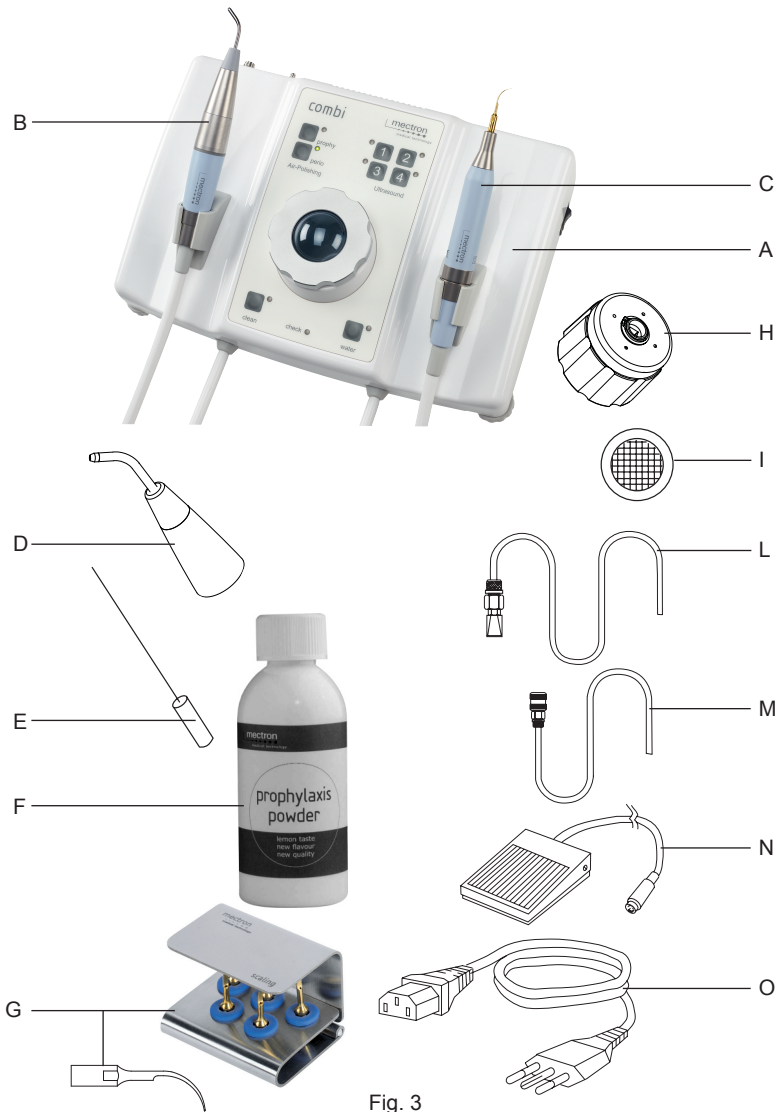
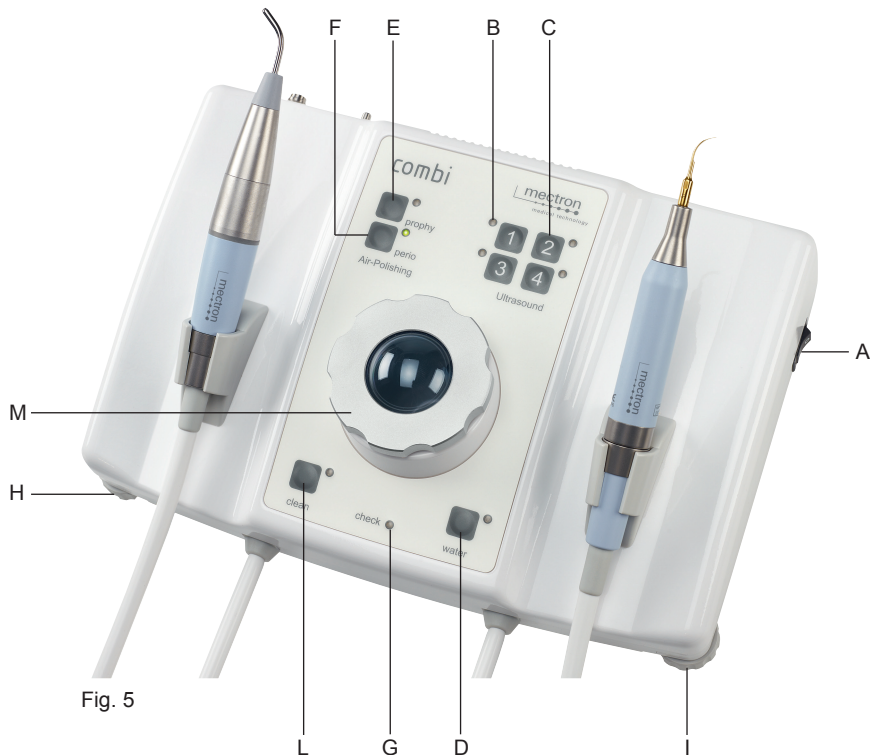
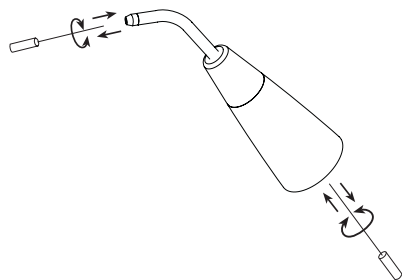

Fig. 3
Fig. 5
Fig. 8
- 1 Body of the device (Fig.3 - Ref.A).
- 1 Polisher handpiece (Fig.3 - Ref.B).
- 1 Scaler handpiece (Fig.3 - Ref.C).
- 2 Polisher front terminal (Fig.3 - Ref.D).
- 2 Needles for cleaning the polisher front terminal (Fig.3 - Ref.E).
- 1 Prophylaxis powder bottle (Fig.3 - Ref.F).
- 1 Insert kit consisting of 4 inserts (Fig.3 - Ref.G).
- 1 Torque wrench K6 (Fig.3 - Ref.H).
- 1 Spare filter for water circuit (Fig.3 - Ref.I).
- 1 Black water hose with quick- coupling connector (Fig.3 - Ref.L).
- 1 Gray air hose with quick- coupling connector (Fig.3 - Ref.M).
- 1 Pedal with cable and plug (Fig.3 - Ref.N).
- 1 Power supply cable (Fig.3 - Ref.O).
This section illustrates the front panel (Fig.5) of the Combi, so that the controls described in the manual can be immediately identified.
Foot pedal (Fig.3 - Ref.N) for enabling operation.
- 1 Set the switch on the right side of the device to the "I" position (Fig.5 - Ref.A - position I) taking care not to press the foot pedal.
The required function, polisher or scaler, is selected automatically by lifting the relative handpiece (Fig.3 - Ref.B Ref.C).
- 1 Set the switch on the right side of the device to the "O" position (Fig.5 - Ref.A).
Make sure that the device is connected to the water supply system (see point "04.2") and that the water tap is open (Fig.5 - Ref.I).
- 1 Insert the front head of the polisher onto the relative handpiece (Fig.3 - Ref.B).
- 2 Make sure that the combi is switched off and unscrew the powder container cap (Fig.5 - Ref.M).
- 5 Turn on the combi by mean of the right hand side switch (Fig.5 - Ref.A) without pressing the foot pedal.
- 6 Lift the polisher handpiece in order to select the polisher function (Fig.3 - Ref.B). The green LED of the prophy or perio function will light up (Fig.5 - Ref.E Ref.F).
- 2 Free the channel from powder residues by using the supplied needle (Fig.3 - Ref.E) and following the indicated movements(Fig.8). Blow compressed air through the syringe into the central hole of the terminal from both sides.
⚠ WARNING: The nozzle channel should only be cleaned by using the cleaning needle supplied with the device (Fig.3 - Ref.E).
The device is equipped with an APC (automatic protection circuit), which is activated when any upset occurs during operations. APC activation is indicated by the yellow LED on the front of the device (Fig.5 - Ref.G). According to the reason of the upset, two kind of alarms are possible: flashing or fixed light, as follows:
- 5 Select the required power level by pressing one of the 4 push buttons (Fig.5 - Ref.C) marked **Ultrasound**. The green LED (Fig.5 - Ref.B) corresponding to the selected power will light up.
- 6 If the treatment requires a water spray, check that the LED corresponding to the push button **water** (Fig.5 - Ref.D) is on. In case it is not, push the **water** button to activate it.
- 7 Press the foot pedal and adjust the water flow through the right-hand knob (Fig.5 - Ref.I) until the required flow of water is obtained.
- 10 This device enables the use of Starlight p (optional), which is a light-curing lamp for dental composites. By setting the device at a power level between 2 and 4 (Fig.5 - Ref.C) the insertion of the "Starlight p" handpiece is automatically recognised. For a correct use refer to the Starlight p user and maintenance manual.